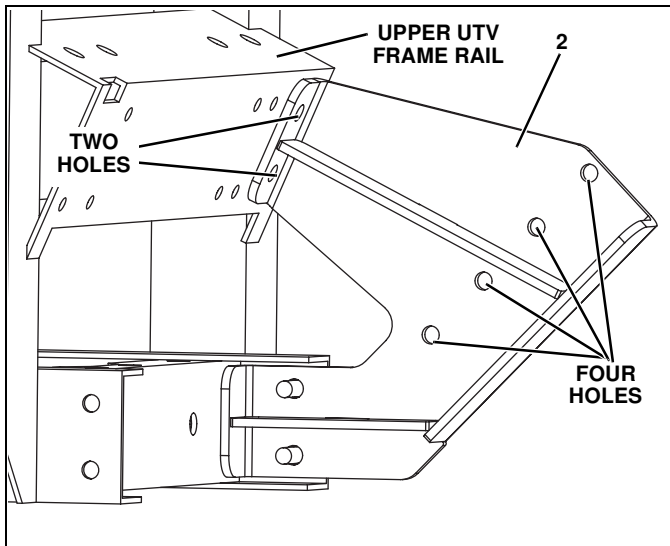

Figure 3
3. While the bolts are aligned through the holes, item #2 is flat against the side of the brush guard, and item #2 is also tight against the upper UTV frame rail; mark the center of all the holes: Four in the brush guard and 2 in the upper UTV frame rail. (See Figure 3.)